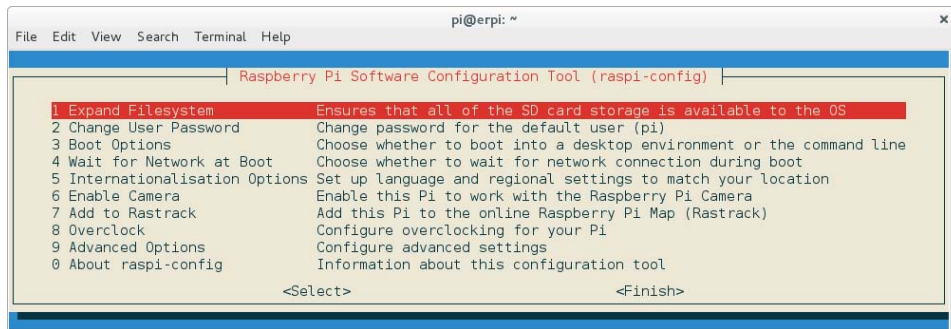

Figure 2-7: The `raspi-config` tool
The Raspberry Pi Configuration Tool, `raspi-config`, is useful for getting started with your RPi. It can be started simply using the following call, whereupon an interface is presented, as shown in Figure 2-7.
- **Expand the root filesystem to fill the SD card:** This is the first option in Figure 2-7. When you write an image to an SD card, it is typically smaller than the capacity of the card. This option allows the root file system to be expanded to use the full capacity of the card. After using this option, you can check the overall capacity as follows: